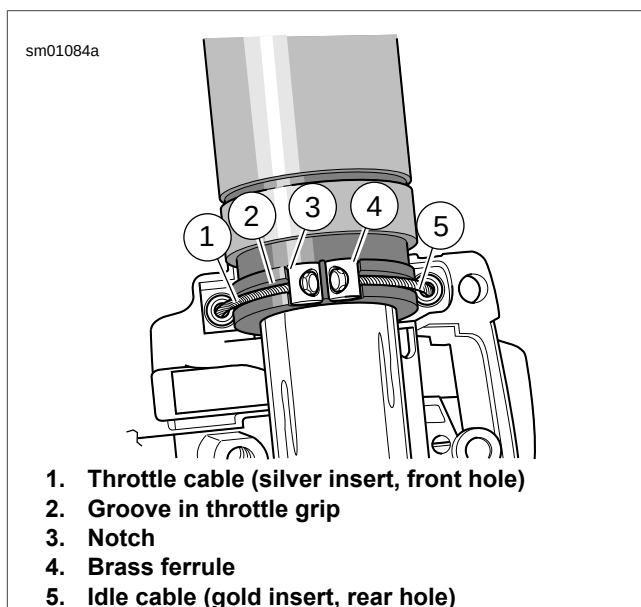

Figure 7-109. Throttle Cable Attachment
8. See Figure 7-109. Remove the brass ferrules (4) from the notches on the inboard side of the throttle control grip. Remove the ferrules from the cable end fittings.
6. See Figure 7-109. Position lower switch housing beneath the throttle control grip. Install the brass ferrules (4) onto the cable so that the end fittings seat in the ferrule recess. Seat the ferrules in their respective notches (3) on the throttle control grip. Verify that the cables are captured in the grooves (2) molded into the grip.